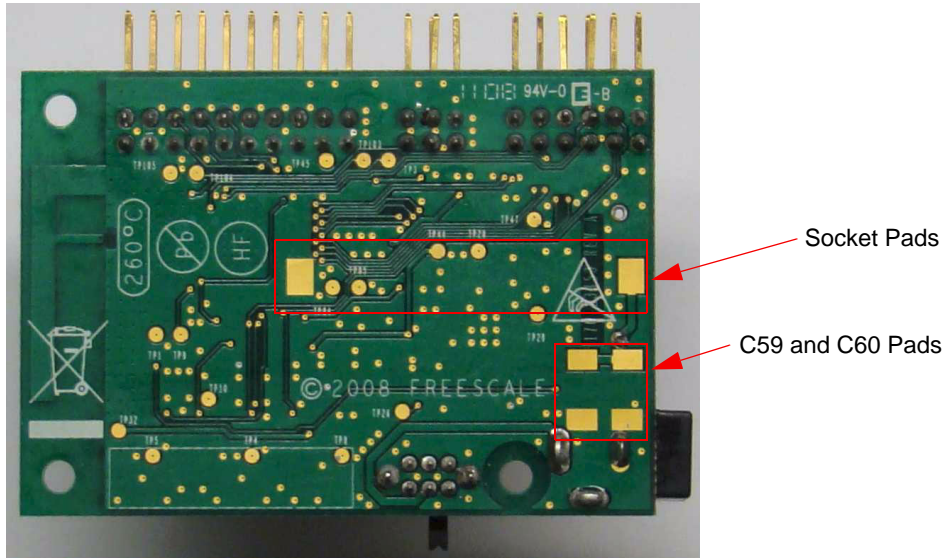

Figure 3-6. 1322x-LPN PCB Bottom View
- The bottom view of the 1322x-LPN is shown in Figure 3-6.